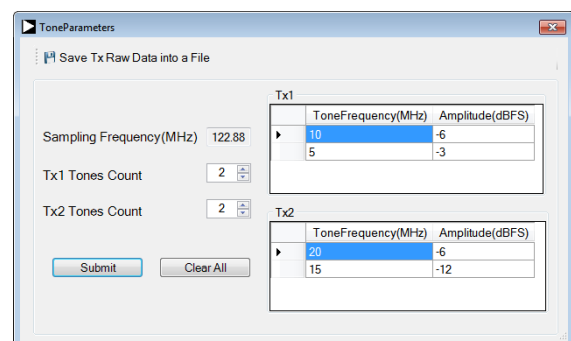

Figure 60. Transmitter **ToneParameters** Dialog Box
- A single tone or dual tone signal can be generated by the evaluation system using the **ToneParameters** dialog box, as shown in Figure 60. In this box, the user can select the number of tones (one or two) that are transmitted on the selected transmitter output. The user has control over the tone frequency offset relative to the LO frequency, as well as the tone amplitude(s) in decibels relative to full scale. The user can store those signals in the form of text files by clicking **Save Tx Raw Data into a File**. Click the play button in the toolbar before data is populated into these files.
- File size is limited to four megasamples (MS) for each channel (I data = 4 MS maximum, Q data = 4 MS maximum). The **EVAL-TPG-ZYNQ3** allocates 134,217,728 bytes for each buffer. Rx1, Rx2, observation receiver, Tx1, and Tx2 have separate buffers. Each data path uses 4 bytes per complex sample (16 bits for the I sample and 16 bits for the Q sample). Therefore, each data path has 33,554,432 16-bit I/Q pairs. A 122.88 MSPS I/Q rate therefore translates to a maximum of just over 273 ms of capture time for each channel.